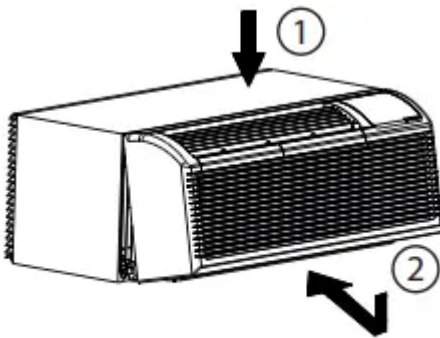

Fig. 13
- Reinstall front panel. (see Fig. 13)